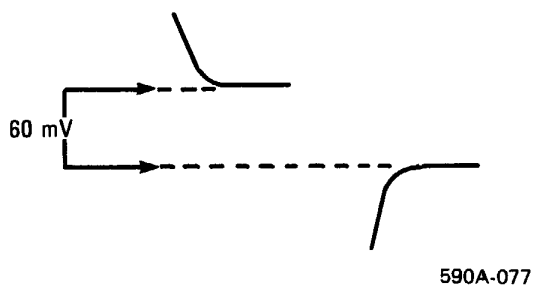

Figure 2. Dead Zone Adjustment Waveform
- e. Adjust A5R194 so that the separation between the attack and decay waveforms is 60 mV \pm 5 mV, see figure 2.